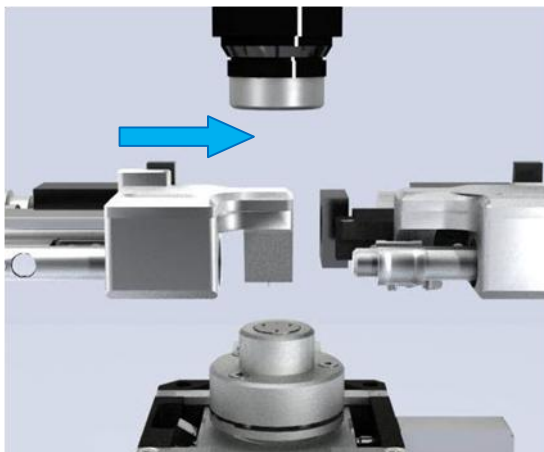
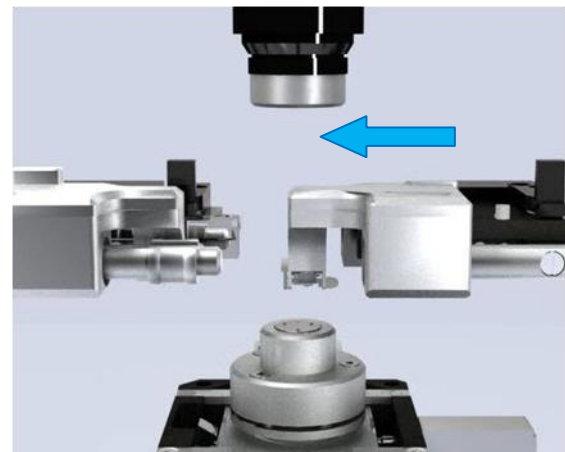

Fig. 1-4. STM head in working position
Fig. 1-5. AFM head in working position
- Working position (Fig. 1-4, Fig. 1-5);